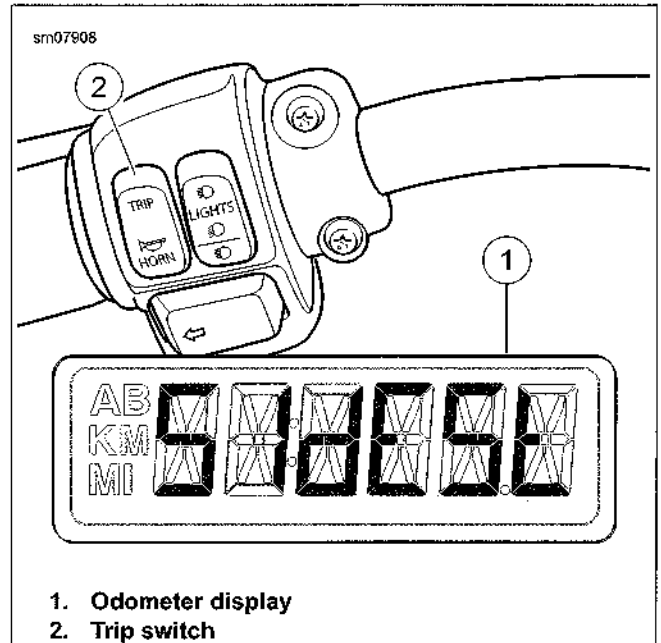

Figure 6-107. SidE StAnd Display
See Figure 6-107. The engine does not start if the rider presses the starter button with the transmission in gear and the jiffy stand down. The message "SidE StAnd" (1) scrolls across the odometer display.